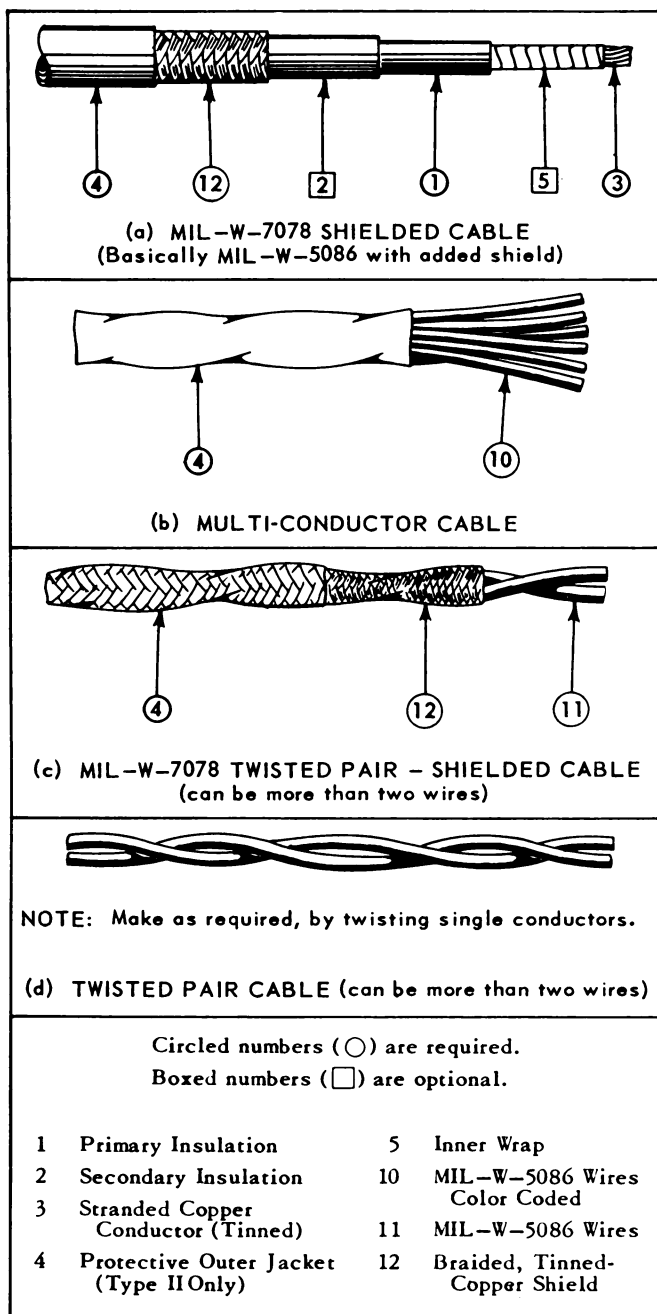

Figure 2-2. Cables Commonly Used in Aircraft
b. Cable. See Figure 2-2. The term cable, as used in aircraft electrical installations includes the following: